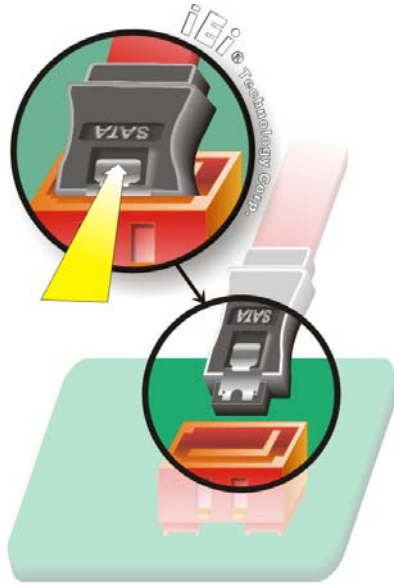

Figure 4-9: SATA Drive Cable Connection
Step 2: Insert the cable connector. Press the clip on the connector at the end of the SATA cable and insert the cable connector into the onboard SATA drive connector. See Figure 4-9.